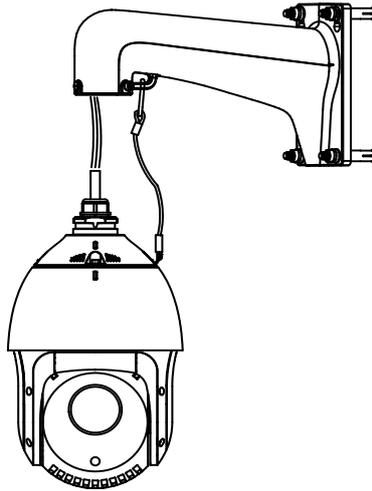

Figure 2-19 Mount the Dome
1. Hang the safety rope to the speed dome and then hook to the bracket as shown in Figure 2-19.